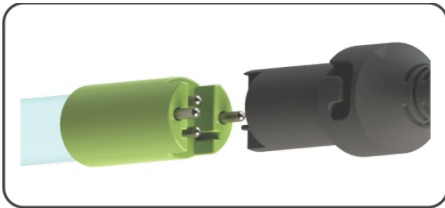

Figure 7a. Standard Output UV Lamp Connection
Step 12: Plug the lamp connector into the lamp. Note the keying for proper alignment (see Figure 7a, 7b). Insert the lamp connector into the gland nut and turn the connector approximately ¼ turn to lock the connector to the gland nut as in Figure 8.